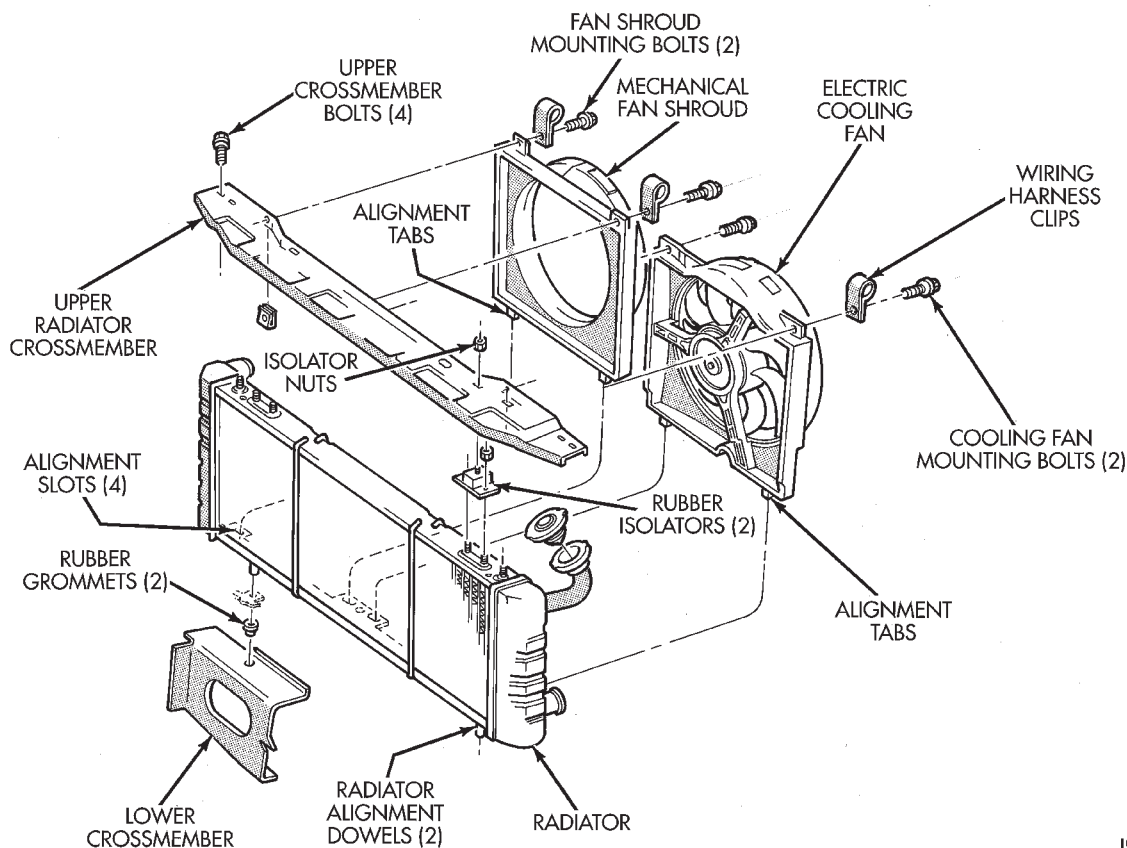

Fig. 32 Auxiliary Electric Cooling Fan and Fan Shroud—Typical
(7) If equipped, remove two electric cooling fan mounting bolts. Lift cooling fan straight up until alignment tabs at the bottom are clear of slots in bracket at bottom of radiator (Fig. 32).
(8) Remove the two mechanical (non-electrical) fan shroud mounting bolts. Lift shroud straight up until alignment tabs at the bottom are clear of slots in bracket at bottom of radiator (Fig. 32). Place shroud over mechanical fan.
(9) If equipped, disconnect and plug automatic transmission fluid cooler lines. Refer to Group 21, Transmissions for procedures. If equipped with remote transmission cooler, remove line to cooler from bracket at bottom of radiator.
(12) Remove two radiator upper crossmember-to-isolator nuts (Fig. 32).
(13) Remove four radiator upper crossmember bolts (Fig. 32) and remove upper crossmember.
The radiator is supplied with two alignment dowels (Figs. 32 or 34). They are located on the bottom tank and fit into rubber grommets in the radiator lower crossmember.
(1) Lower radiator into engine compartment. Position alignment dowels into rubber grommets in radiator lower crossmember (Figs. 32 or 34).